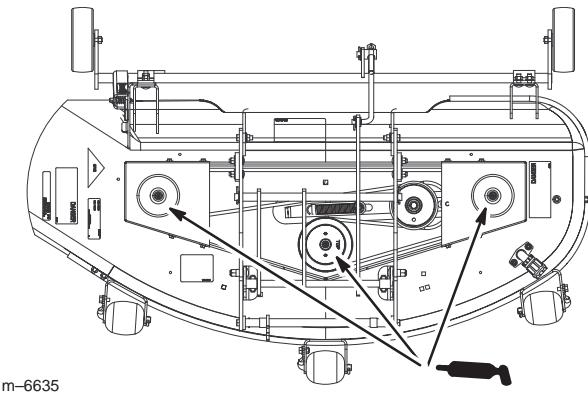

Figure 30
1. Lubricate the blade spindles (Fig. 30). The side discharge model is shown, the rear discharge model will have the same spindles to grease.